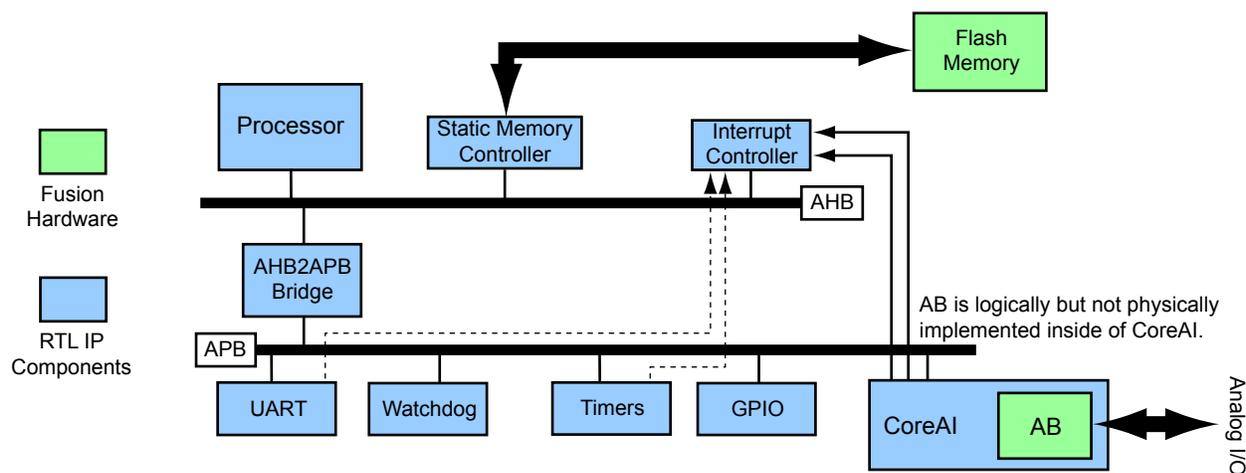

Figure 9-2 • Processor System Using CoreAI
For the above ARM-based processors and CoreABC, Microsemi offers CoreAI (Analog Interface) to interface with the Analog System. CoreAI allows for simple control of the analog peripherals within Fusion. Control can be implemented with an internal or external microprocessor or microcontroller, or with user-created custom logic within the FPGA fabric. The AMBA APB slave interface is used as the primary control mechanism within CoreAI, as shown in Figure 9-2. CoreAI instantiates the Analog Block (AB) macro, which includes the Analog Configuration MUX (ACM) interface, Analog Quads, and Real-Time Counter (RTC). Several aspects of CoreAI can be configured using top-level parameters (Verilog) or generics (VHDL). For a detailed description of the parameters/generics, refer to the CoreAI Handbook.